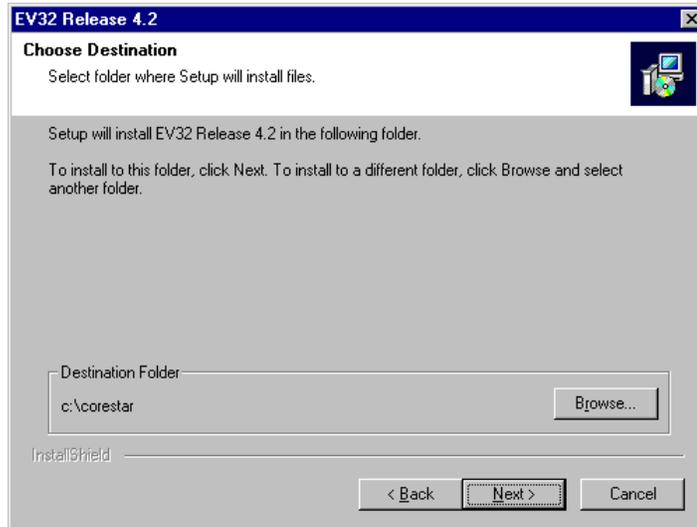

Figure 2-2. Installation Destination Window
- The window shown in Figure 2-2 appears. The installation program defaults to an installation directory named *c:\corestar*. Click the **Browse** button to select a different installation drive and/or directory. If the desired directory doesn't already exist, the installation program will create it. Example: *d:\corestar*. Finally, click the **Next** button to continue.